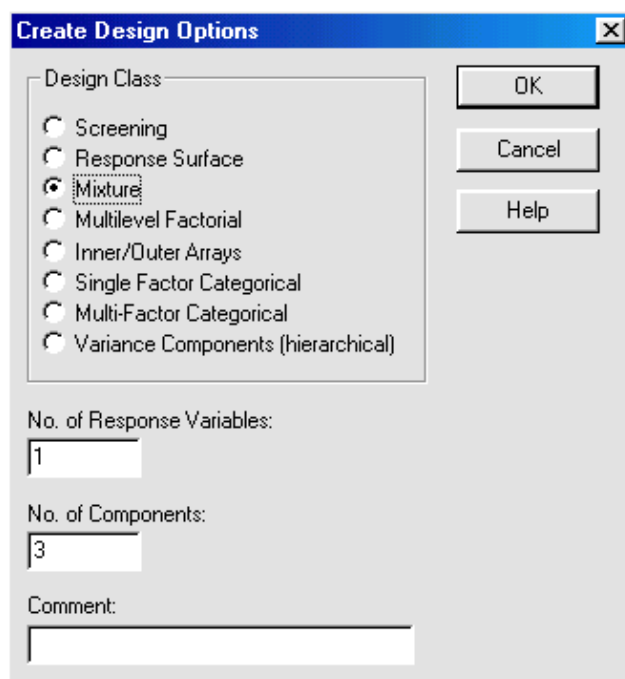

Figure 5-1. Create Design Options Dialog Box (Mixture Designs)
1. Choose **SPECIAL... EXPERIMENTAL DESIGN... CREATE DESIGN...** from the Menu bar to display the Create Design Options dialog box shown in Figure 5-1.